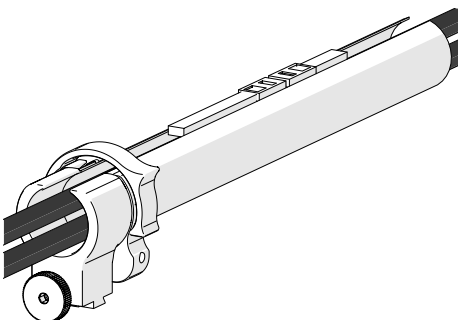

Fig. 82 - Zip opposite end
3. Once the cable is placed the entire length of the tube, bring the zipper from the tube's opposite end, meeting at any point in the middle (*Fig. 82*).